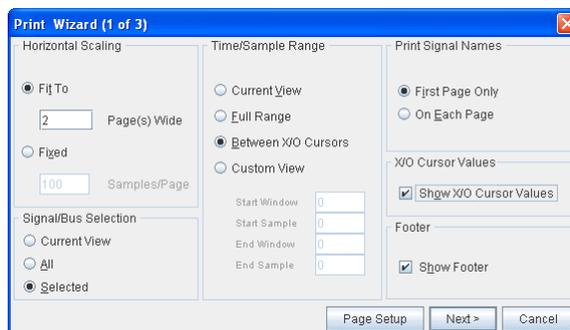
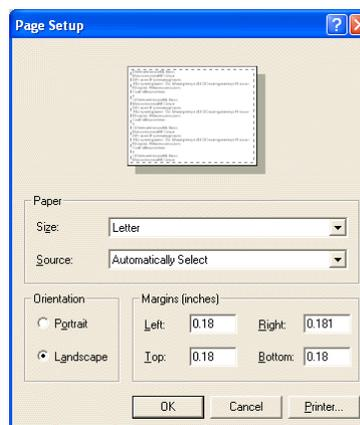

Figure 4-6: Print Wizard (1 of 3)
Figure 4-12: Page Setup Window
1. (1 of 3) is the Print options and settings window (Figure 4-6, page 106)
The first Print Wizard window (Figure 4-6) is used to set up various waveform printing options. The following sections describe these waveform printing options in more detail.
The buttons at the bottom of the Print Wizard (1 of 3) window (Figure 4-6, page 106) are defined as follows:
- *Page Setup*: Opens the page setup window (refer to Figure 4-12, page 110)
The Page Setup window (Figure 4-12) can be invoked either from the Print Wizard (1 of 3) window (Figure 4-6, page 106) or by using the **File** → **Page Setup** menu option.